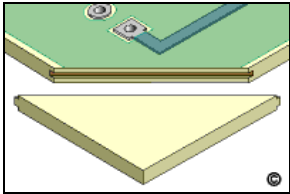

Figure 3: Check fit of new base material. The tongue must mate with the groove.
6. Check the fit to be sure the new base material properly mates with the groove in the circuit board. (See Figure 3).